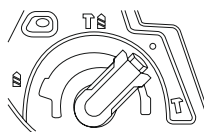

Fig. 3
3. Changing the chiselling position (see Fig. 3)